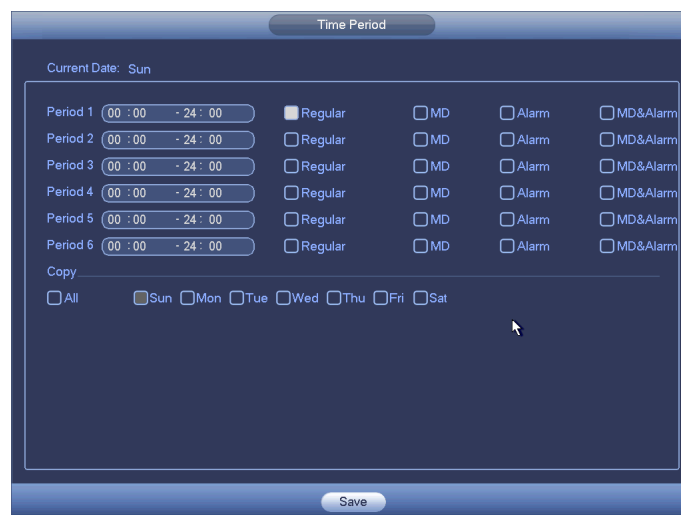

Figure 4-113
- **Period setup:** Click button  after one date or a holiday, you can see an interface shown as in Figure 4-113. There are four record types: regular, motion detection (MD), Alarm, MD & alarm.